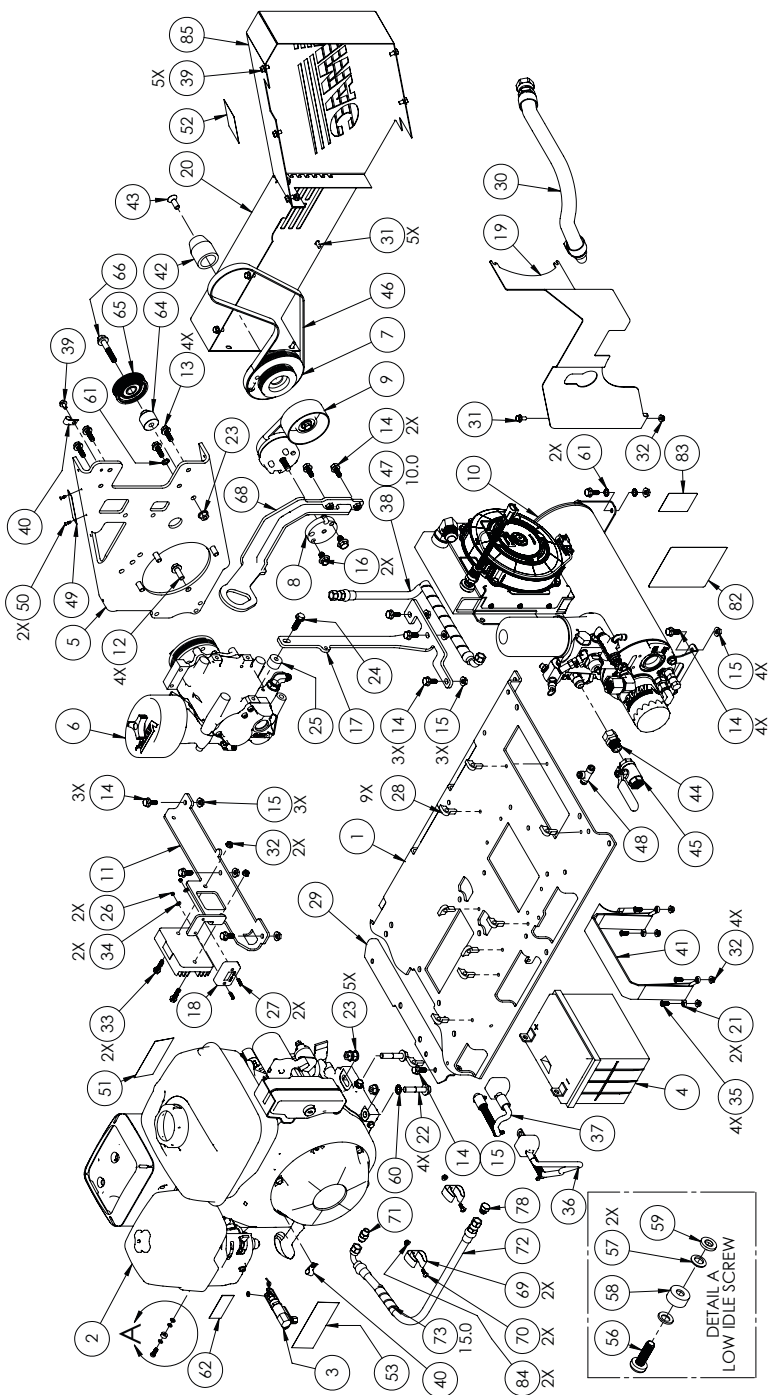
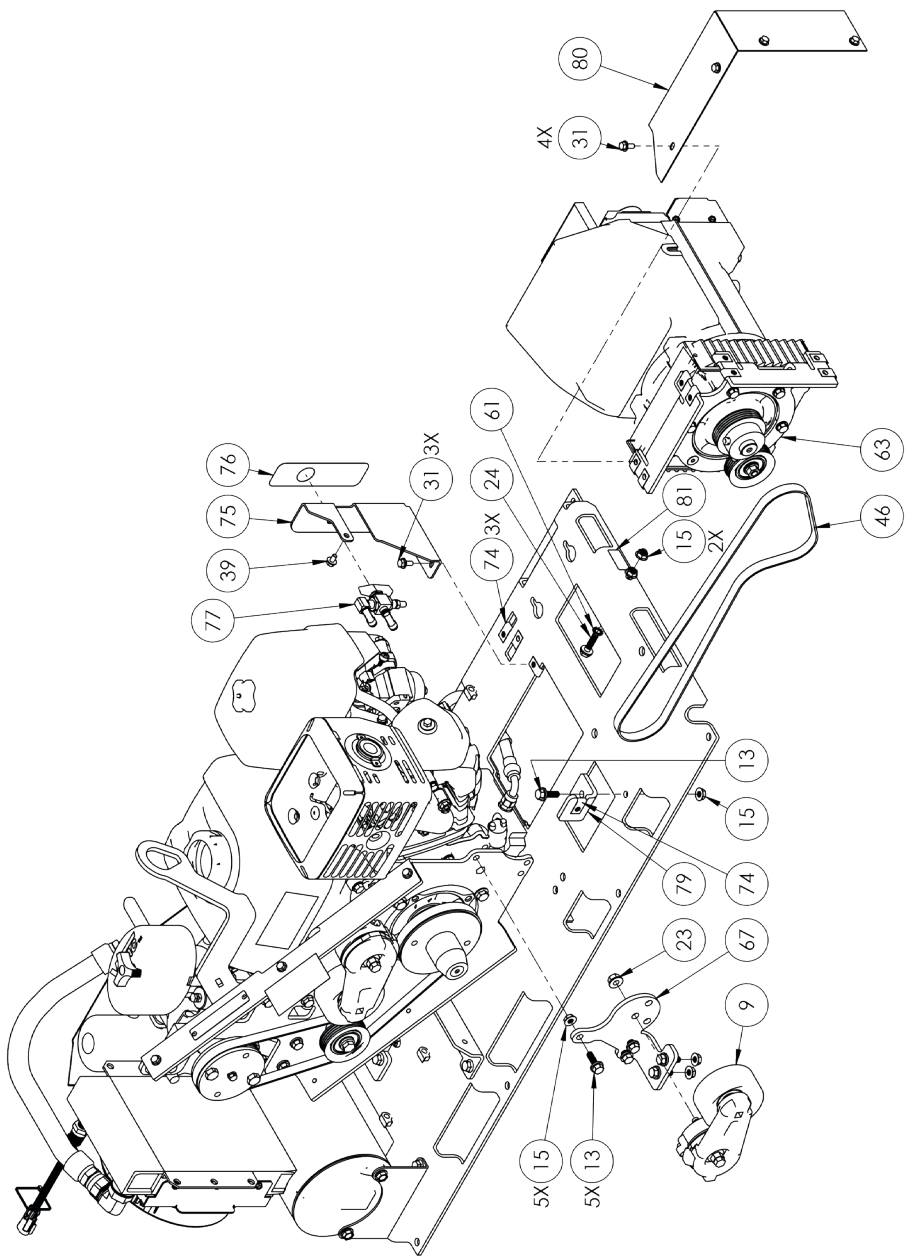

Figure 88 — Kit pack list
Figure 89 — Kit pack list
****Items 54 – 55, 86 – 97 not shown in Figure 88 on page 112 or Figure 89 on page 113.***
2. Compressor Assembly, P190004 (Figure 89)